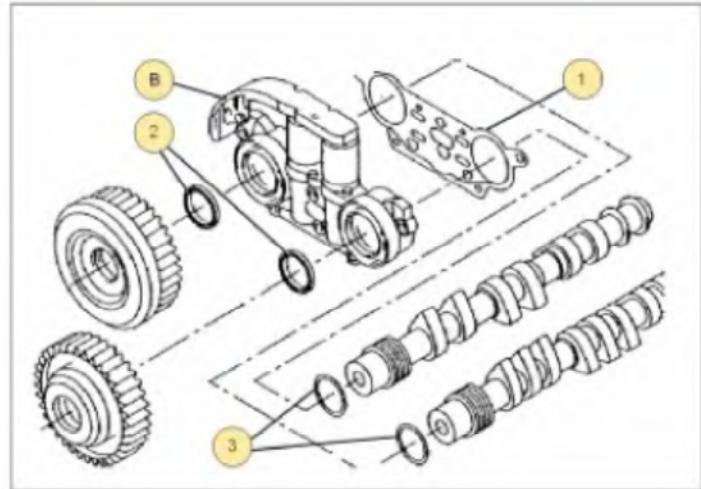

Figure 2. The gasket (1), camshaft adjustment housing (B), camshaft sealing rings (2) and O-rings (3).
- b. Replace gasket (Figure 2, 1) and O-rings (Figure 2, 3) between camshaft adjustment housing (Figure 2, B) and cylinder head.
Replace both camshaft sealing rings (Figure 2, 2) (See Repair Manual, Group 15, "Camshaft and camshaft adjusters, removing and installing")